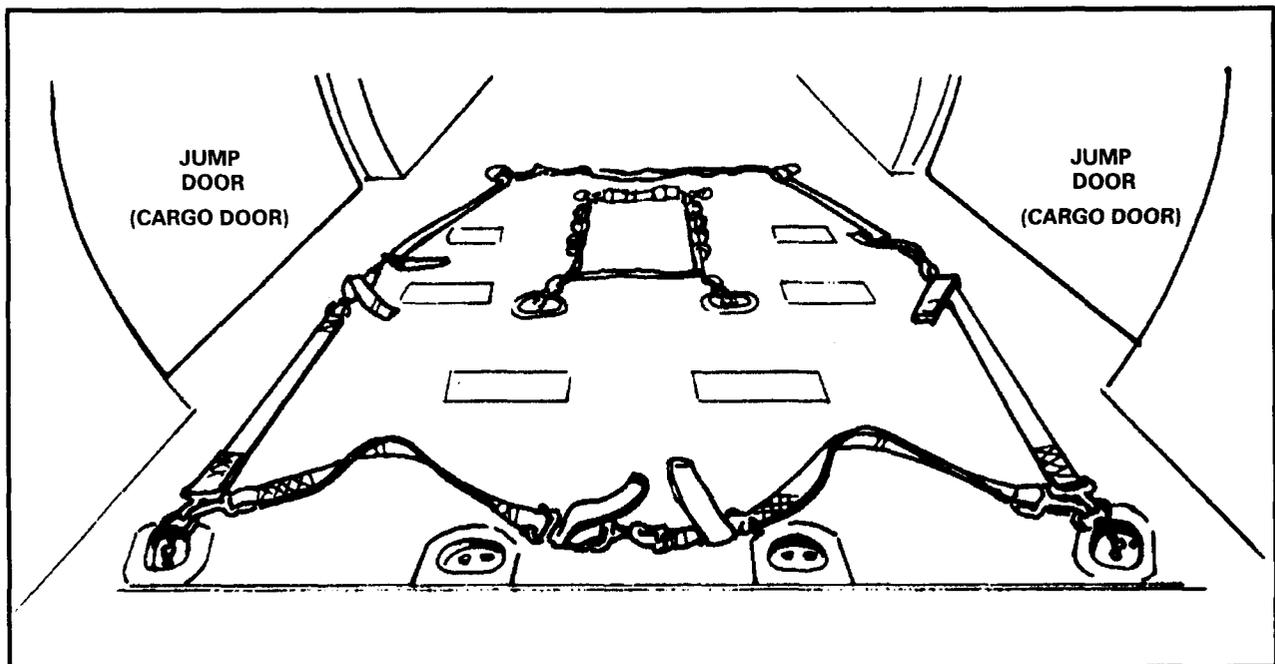

Figure 17-7. UH-60A compartment prepared for jumping.
a. **Preparation.** To prepare the UH-60A for jumping, adhere to the following procedure (Figure 17-7):
(1) Lock both cargo doors in the open position.